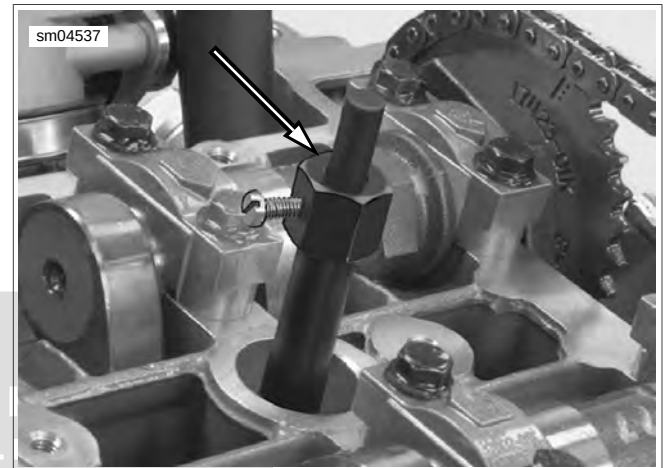

Figure 1-57. Top Dead Center Positioning Tool
1. See Figure 1-57. Install TDC POSITIONING TOOL (Part No. HD-45653) in front spark plug hole.